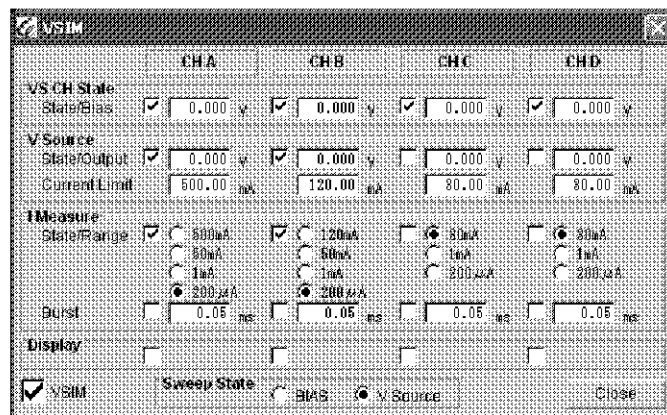

Figure 11-3 Receiving the EGSM
2. Set channels A and B as shown in Figure 11-3 according to the settings in Table 11-3.